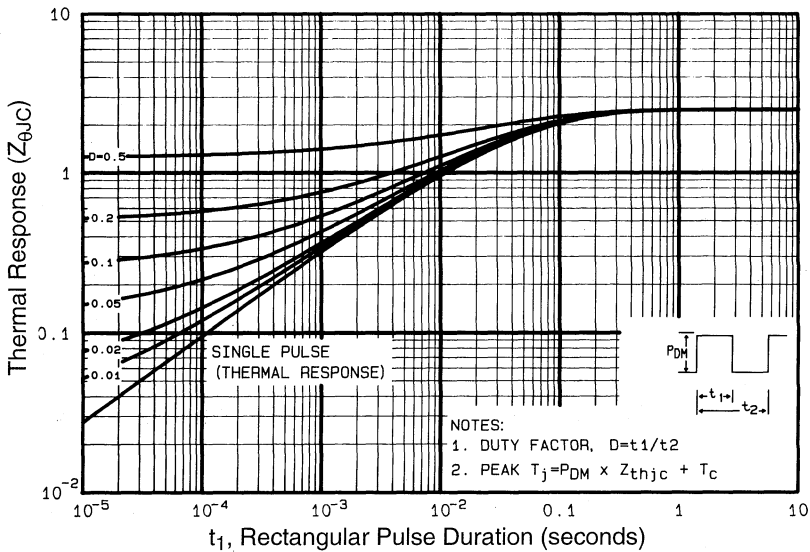

Fig 11. Maximum Effective Transient Thermal Impedance, Junction-to-Case
- ① Repetitive rating; pulse width limited by max. junction temperature. (See fig. 11)
- ② $V_{DD} = 25V$, starting $T_J = 25^\circ\text{C}$, $L = 400\mu H$